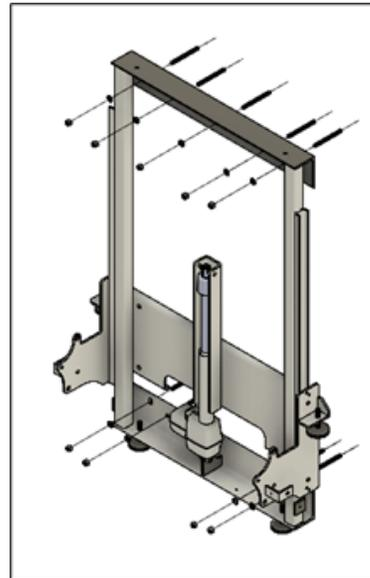

Figure 8 - Mounting Hole Locations with Anchoring Hardware
5. Mark all 9 mounting hole positions with a pencil (refer to Figure 8).
2. Place lock washer and hex nut on each rod (refer to Figure 8 on previous page).